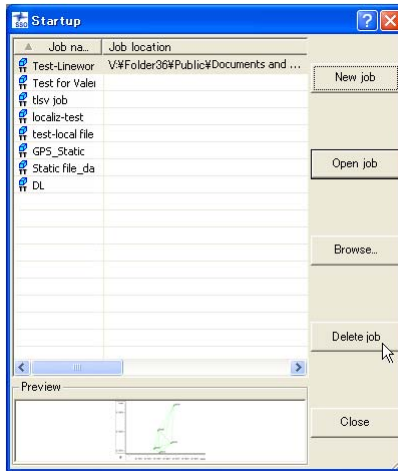

Figure 2-7. Select Job to Delete
1. To delete a job, select the desired job using the **Open a job** or **Startup** dialog boxes and click **Delete** (Figure 2-7). Click **OK** on the confirmation message.